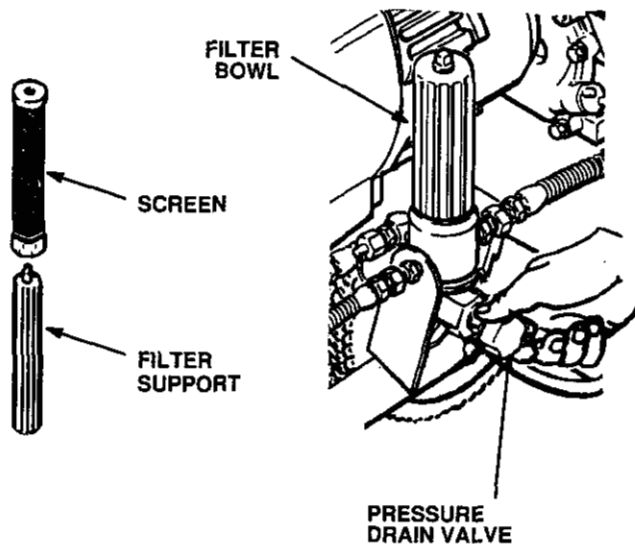

Fig 16-1
2. Remove the filter bowl and screen; see manual 307-273, supplied. Clean the screen separately and install the bowl without the screen to flush it. See Fig 16-1.